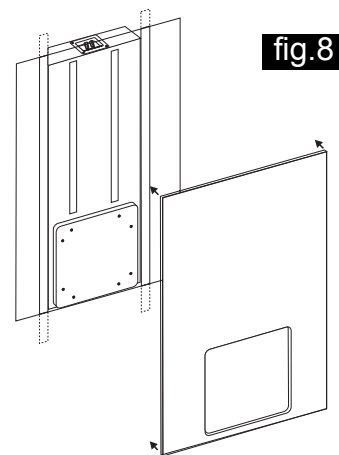

fig.8
7. After running speaker wire to the enclosure location, connect the wire to the binding posts on the top of the enclosure, making sure to observe correct polarity (see "Connections"). Once the enclosure is connected to the speaker wire and secured to the studs, prepare a drywall patch that includes a cutout for the bezel (fig. 8). The wood cover that protects the woofer also serves as the cutout template. The template is 13 1/8" square with 1/2" radiused corners. Once installed, the bezel outer frame will extend out about 5/8" beyond the perimeter of the cutout to hide minor imperfections in the cutout.